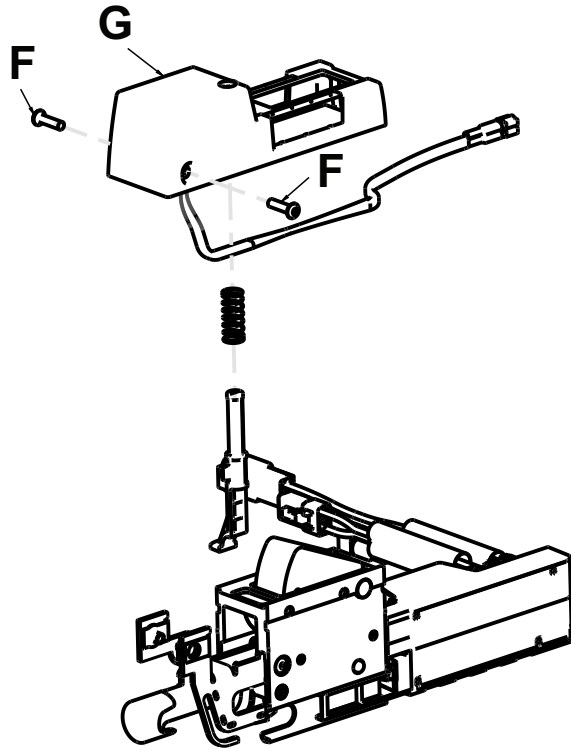

Figure 53 – Remove the anchor housing assembly
12. Using a 1/8" hex wrench, remove the two button head cap screws (F) that secure the anchor housing assembly head end to the anchor pawl assembly. Remove the anchor housing assembly (G) (Figure 53).